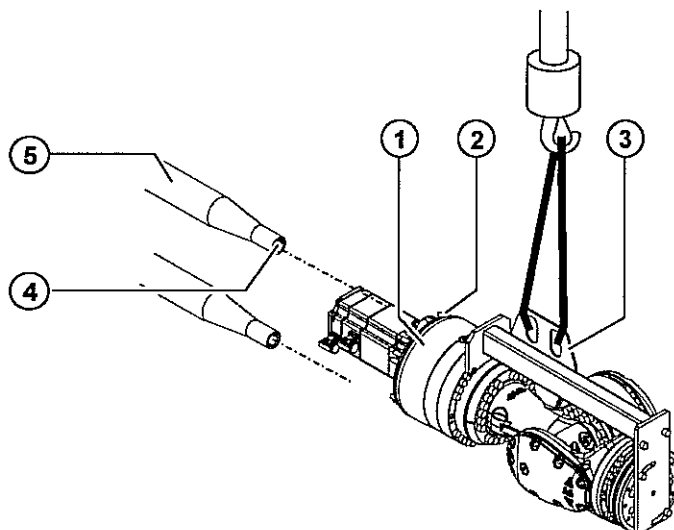

Fig. 12-28: Installing the in-line wrist
1. Remove all protective coatings and oil from new in-line wrist, if applicable. Clean the toothing on the connecting shafts and on the in-line wrist before installation and apply a thin but continuous coat of Microlube GL 261 grease (>>> Fig. 12-28).